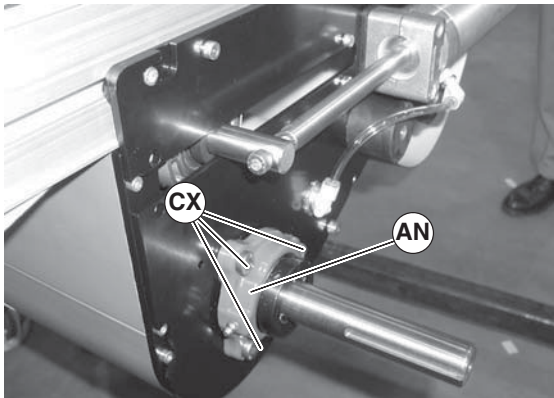

Figure 87
4. Remove the three (3) mounting screws (Figure 87, item CX).
5. Remove and replace bearing housing assembly (Figure 87, item AN).